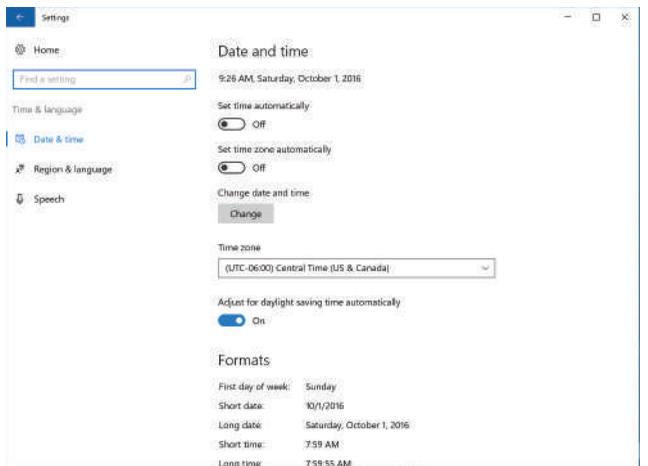

Figure 120. ‘Time & language’ screen. Settings for Date and time can be modified from this screen.
- c. Touch the **Time & language** button on the ‘Windows Settings’ screen to open the ‘Time & language’ screen (Figure 120).